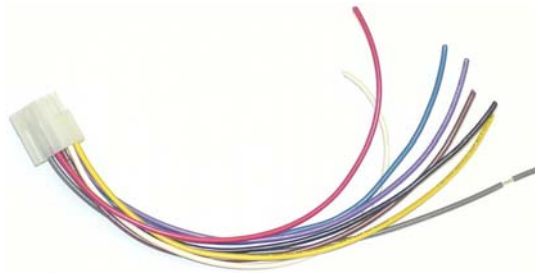

FIGURE 3
10. A **Field Plug** is provided to attach field wiring to the logic board by using wire connectors to attach the appropriate wires to each lead. See specified wiring diagram for proper quantity of wires and field plug hook-ups. Wiring should always meet local codes (Figure 3).